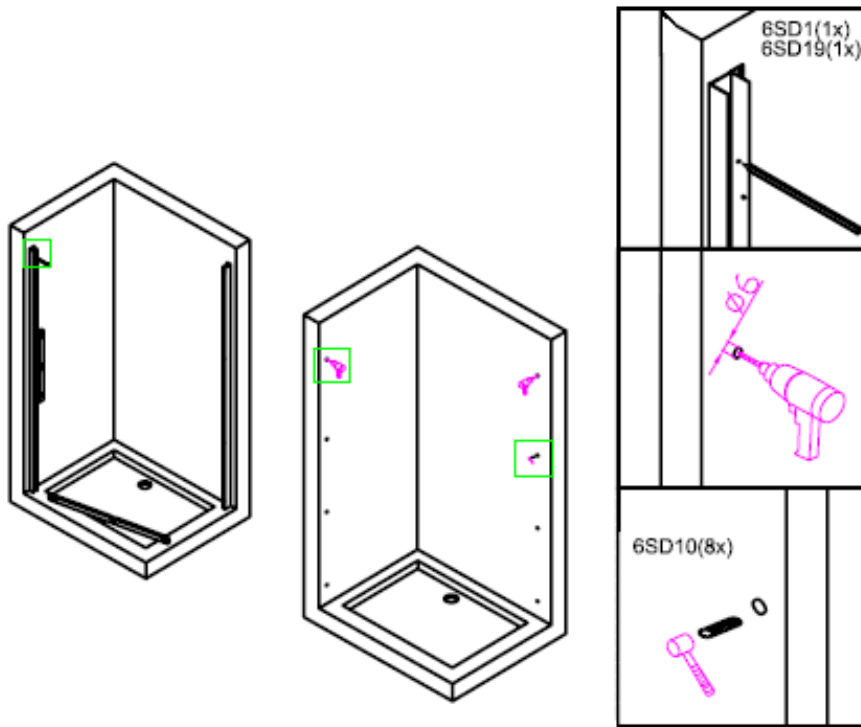

Figure 1
1. Using the spirit level to make sure the frame between the walls is horizontal. lift the wall profile(6SD1) upto the wall. Check whether the frame is vertical by using a spirit level. Mark the holes to the walls with a pencil. Drill the holes(  $\phi$  6mm) into the wall according to the marks made and insert the wall plugs (6SD10) into the holes, as shown in figure 1